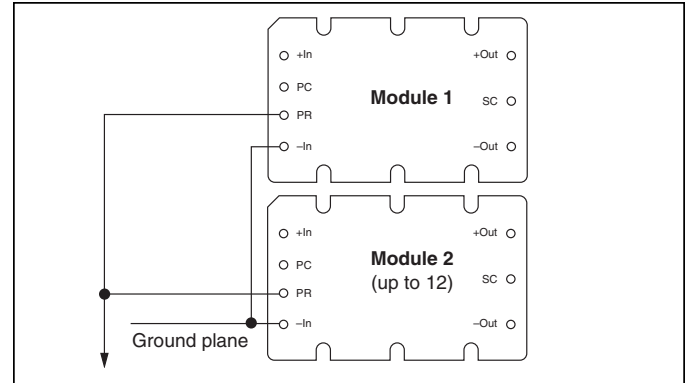

Figure 9 — DC coupled single-wire interface.
*DC coupled single-wire interface.* All PR pins are directly connected to one another. This interface supports current sharing but is not fault tolerant. Negative In pins must be tied to the same electric potential. Up to three converters may be paralleled by this method. See Figure 9.